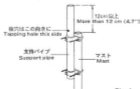

Fig. 1
3. Attach support pipe to a suitable mast with brackets as shown in Fig. 1. Tapping hole in support pipe should be placed above brackets and it should be turned outside against the mast. The top end of support pipe should be set more than 12 cm (4.7") above the top end of the mast as shown in Fig. 1.